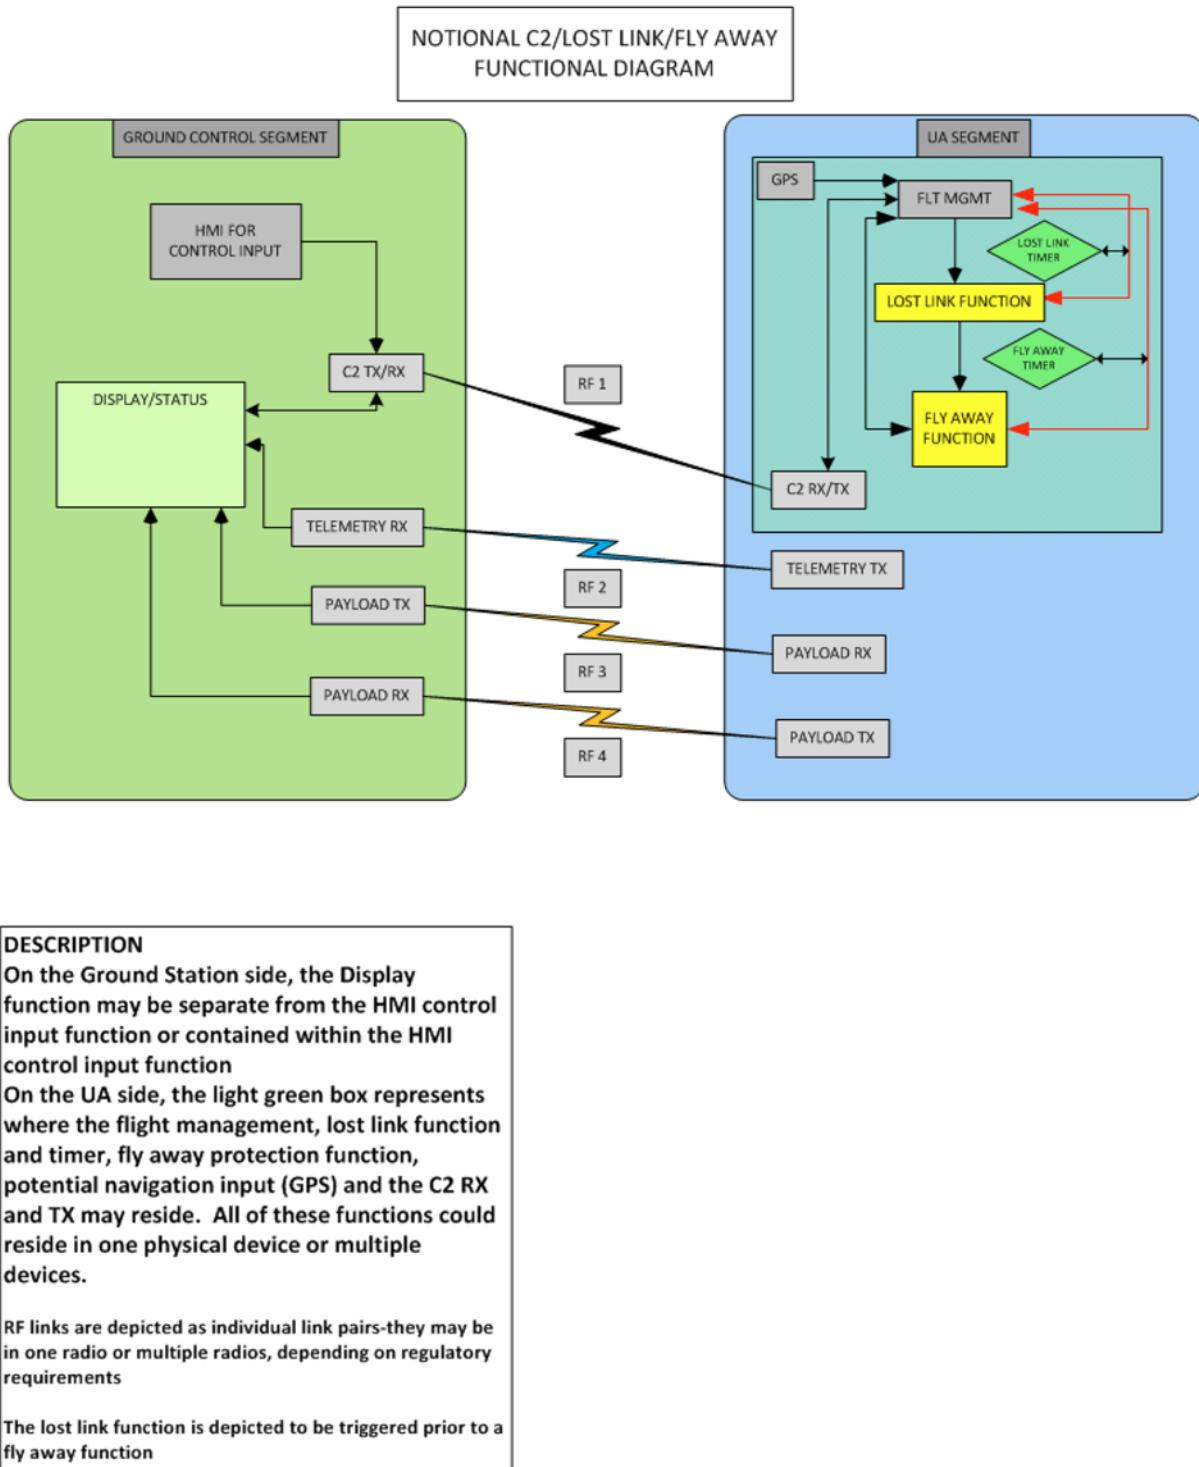

FIG. 1 High-Level Functional Block Diagram of the C2 System
5.1 A high-level functional block diagram of the C2 system is presented in Fig. 1.